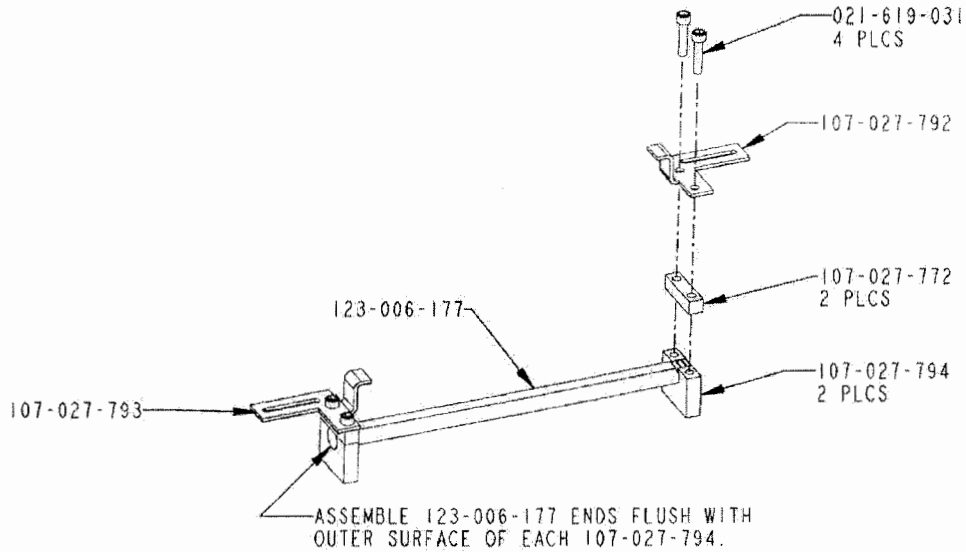

Figure 1
1. Assemble rack assembly as shown in Figure 1.